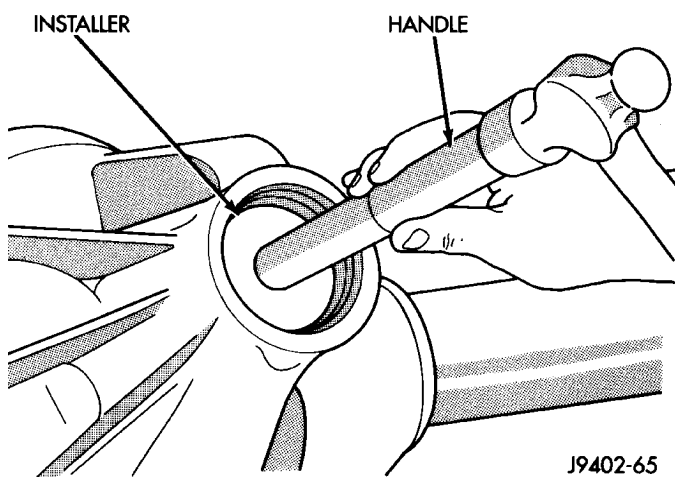

Fig. 47 Pinion Front Bearing Cup Installation
(3) Apply Mopar® Door Ease, or equivalent, stick lubricant to outside surface of bearing cup.
(4) Install the pinion front bearing cup with Installer D-130 and Handle C-4171 (Fig. 47).